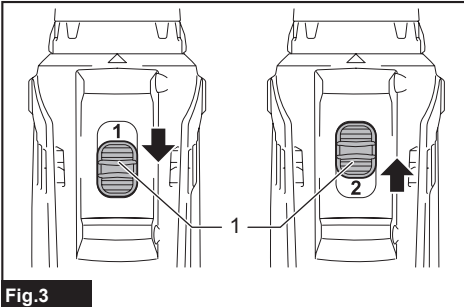

Fig.3
► **Fig.3:** 1. Speed change lever